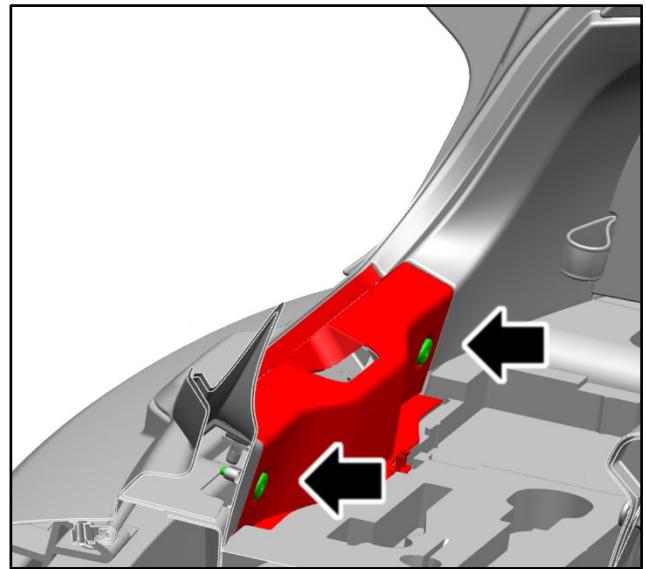

Figure 3
3. Remove the two bolts on the decklid closure trim (refer to Figure 3).
4. Remove the decklid closure trim (refer to Figure 3).